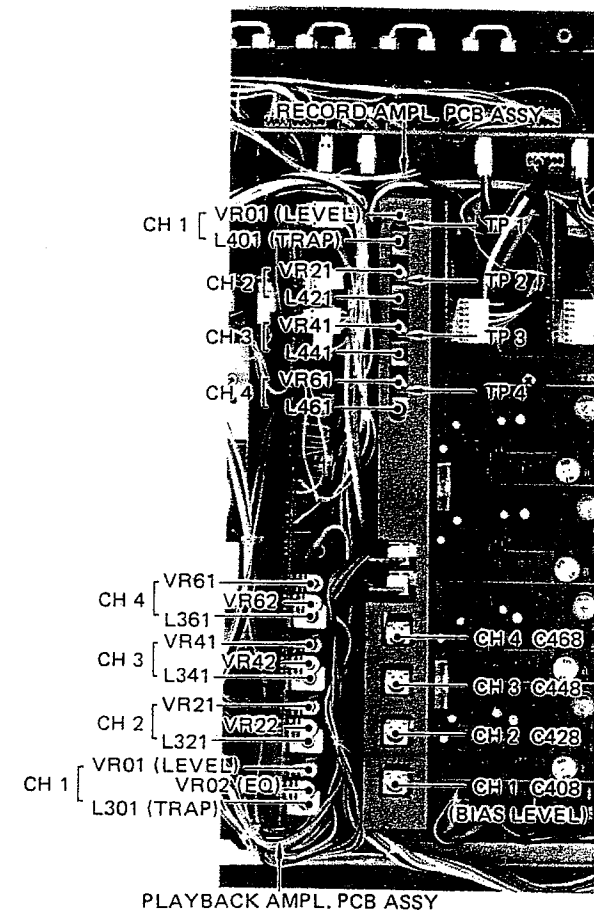

Fig. 6-6-1
- 9) Fig. 6-6-1 indicates locations for the bias trimming capacitors.
- 4) Fig. 6-6-1. indicated locations of the trim pots.